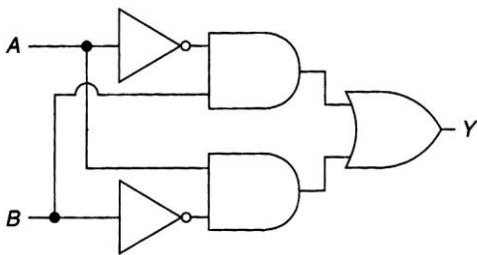

Figure 4-10 Logic circuit for question 19.
19. The Boolean expression for the logic circuit drawn in Figure 4-10 is 19. _____